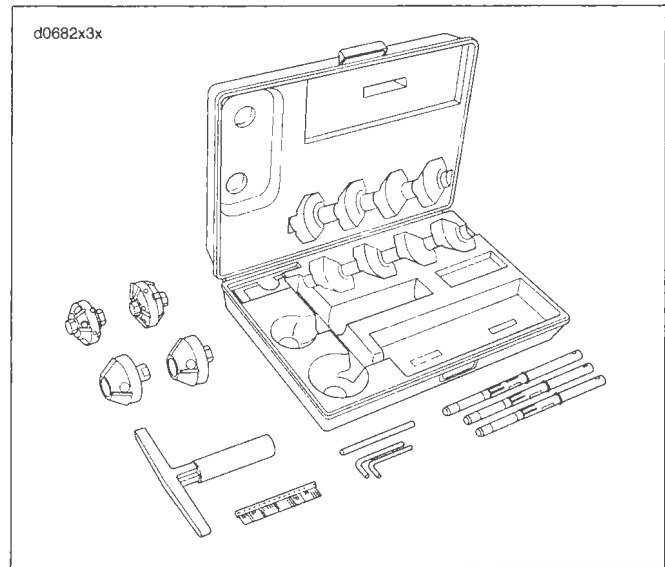

Figure 3-108. Neway Valve Seat Cutter Set
7. See Figure 3-108. Obtain the NEWAY VALVE SEAT CUTTER SET (Part no. HD-35758-B). Choose the cutter pilot that fits properly into the valve guide hole. Securely seat the pilot by pushing down and turning using the installation tool supplied in the tool set.